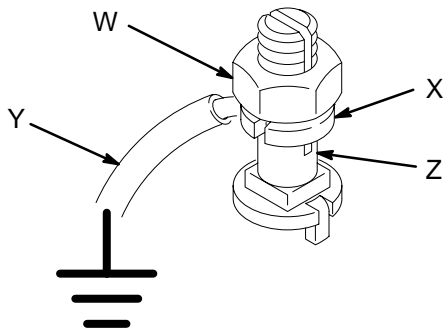

Fig. 1
1. *Pump*: use a ground wire and clamp. See Fig. 1. Loosen the grounding lug locknut (W) and washer (X). Insert one end of a 1.5 mm2 (12 ga) minimum ground wire (Y) into the slot in lug (Z) and tighten the locknut securely. Connect the other end of the wire to a true earth ground. Order Part No. 222-011 Ground Wire and Clamp.